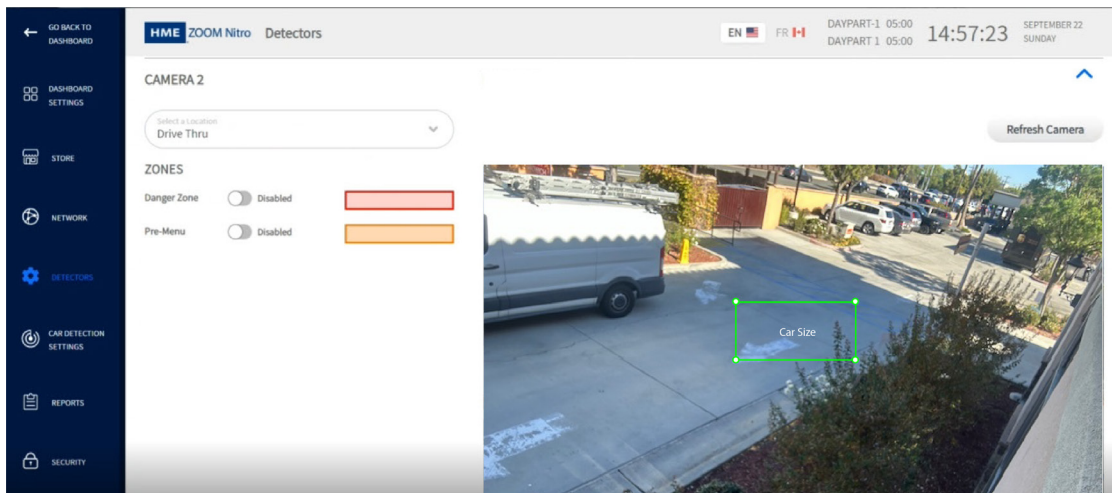

Fig. 18
5. With the Camera Preview now displayed (Fig. 18), determine if the view is good enough to draw zones. If not, the camera angle will need to be adjusted. After each adjustment, use the “Refresh All Cameras” button to refresh the preview image to the newly adjusted angle.